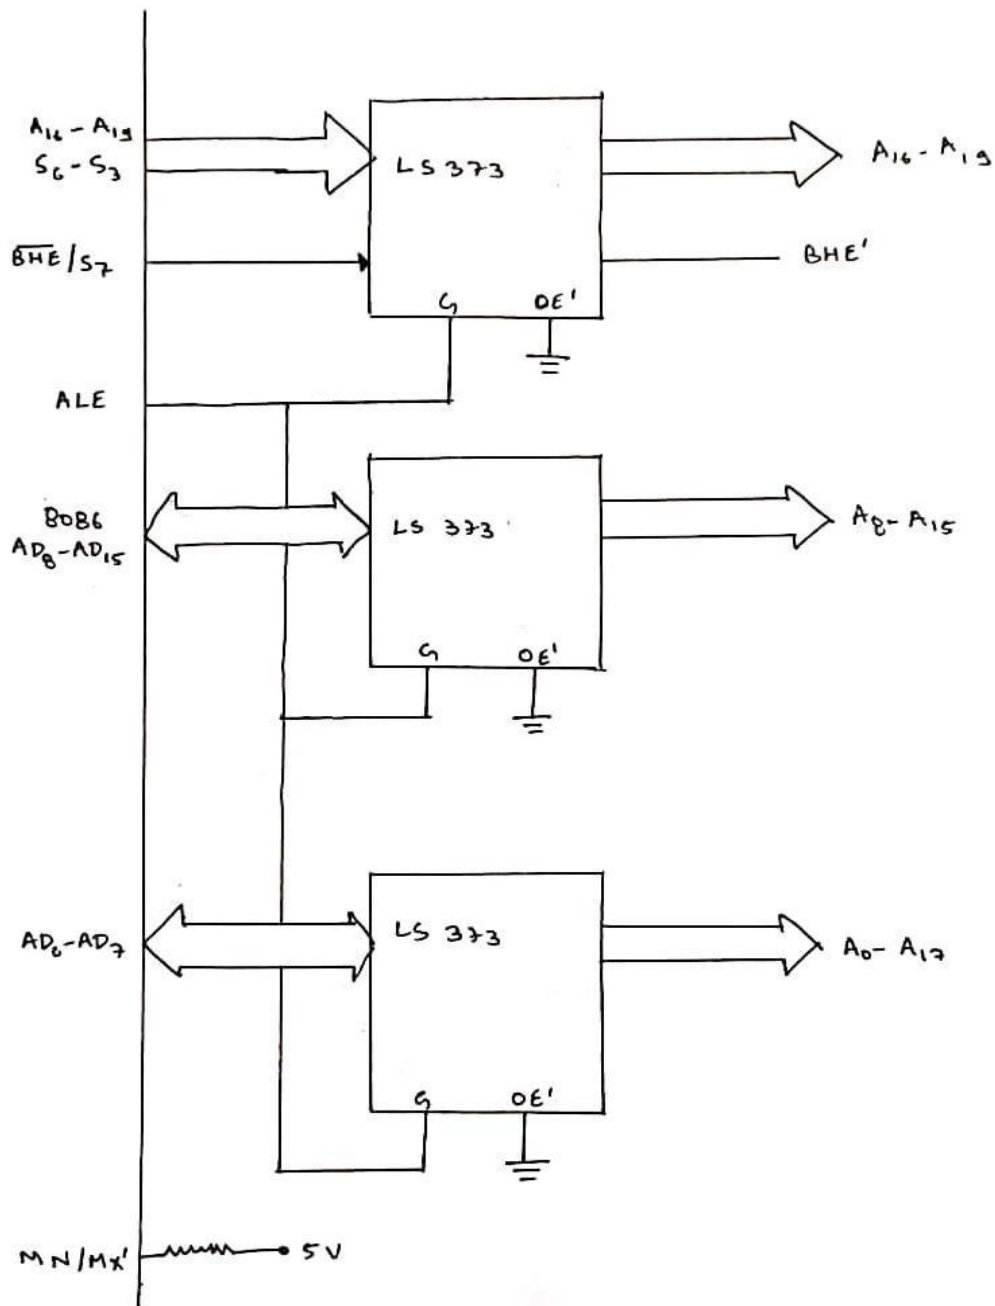

Fig 19.12
3. Address Bus of 8086	(Fig 19.12)